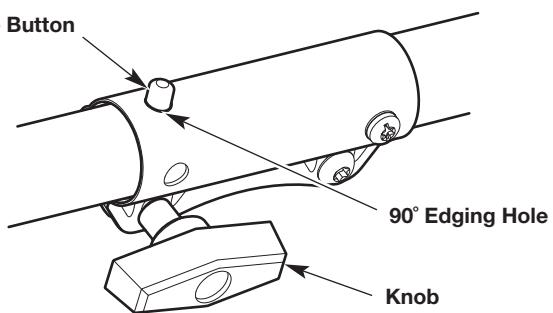

Fig. 19
1. Turn the knob counterclockwise to loosen the coupler (Fig. 19).
2. Press and hold the release button (Fig. 19).
3. Rotate the attachment until the release button snaps firmly into the 90° edging hole (Fig. 19).
4. Turn the knob clockwise to tighten the coupler (Fig. 19).